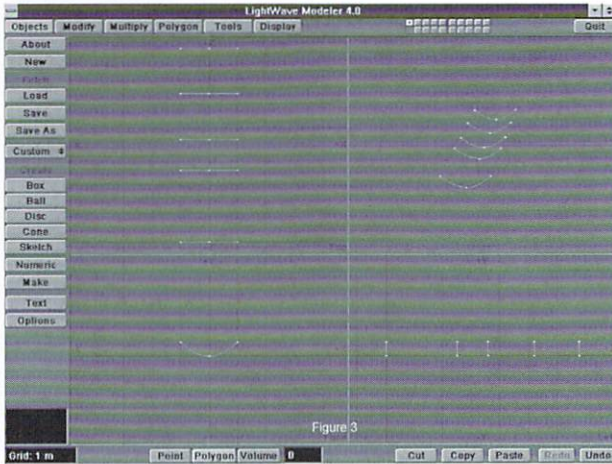

Figure 3
- Continue to use this method of copying and pasting curves until you have something that looks like Figure 3. When you do, cut all the curves and paste them back into layer 1. *[Editor's note: A quick way to achieve this is to make all of the layers active and choose Cut, then Paste. All curves will be pasted into*